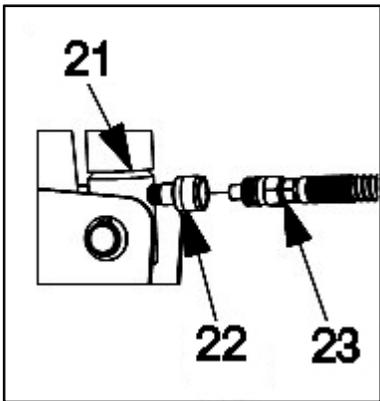

Fig. 13: Insert hydraulic hose into quick coupler
10. Insert the hydraulic hose [#23] into the cylinder's quick coupler [#22] and thread the quick coupler's collar onto the hose (Fig. 13).